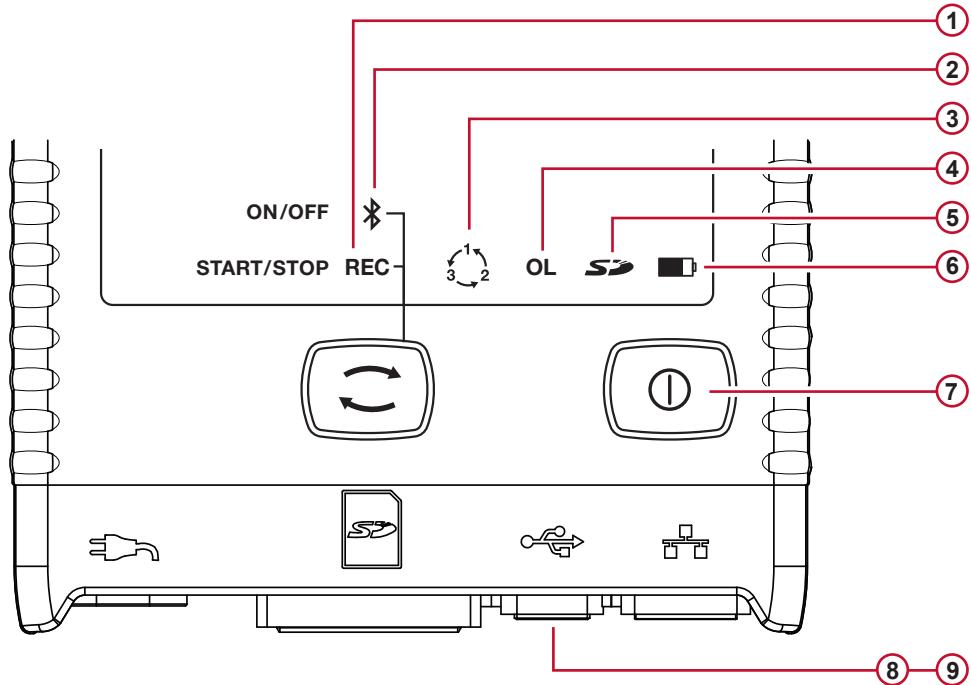

Figure 11
- Use the **Control** button (C) to start or stop a recording session and to enable or disable Bluetooth.
- The GREEN REC LED (see #1 Figure 11) lights up for 3 s, followed by the BLUE BLUETOOTH LED (see #2 Figure 11) for 3 s - one after another. During the time each LED is lit you can control its associated function as described below.